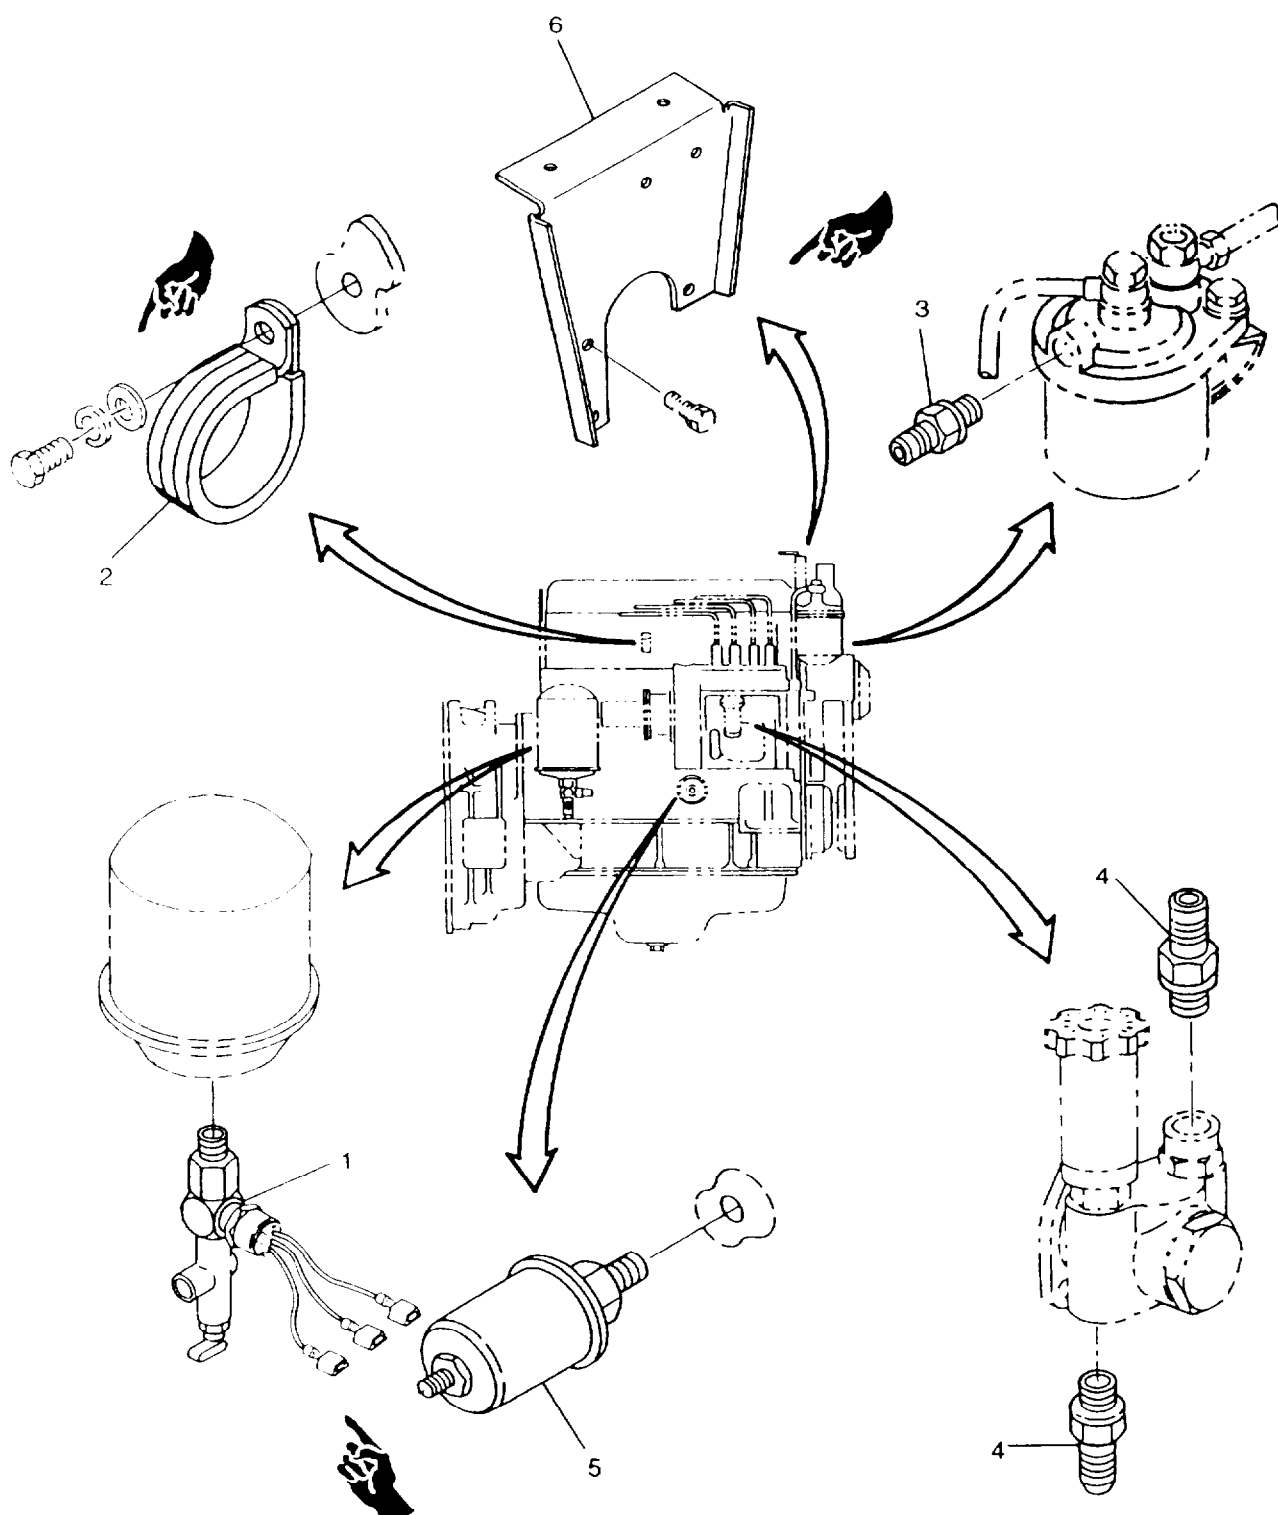

FIGURE 3-16. Engine Components
- (1) Oil sample valve, low oil pressure switch, and fitting assembly (1, FIGURE 3-16).
- (2) Loop clamp (2, FIGURE 3-16) Use hardware from old engine.
- (3) Fuel filter fitting (3, FIGURE 3-16).
- (4) Fuel transfer pump fittings (4, FIGURE 3-16).
- (5) Oil pressure sender and fitting assembly (5, FIGURE 3-16).
- (6) Radiator support bracket (6, FIGURE 3-16). Use hardware from old engine.